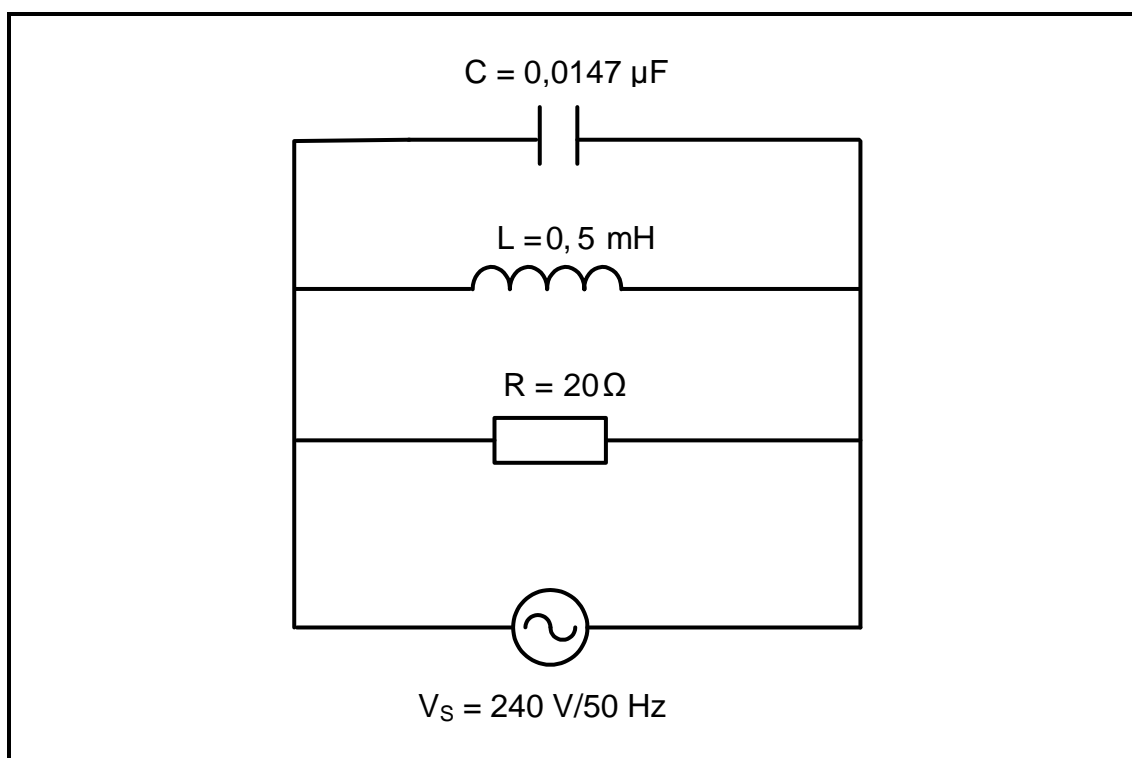

FIGURE 5.4
- 5.4 Refer to the circuit diagram in FIGURE 5.4 below and answer the questions that follow.